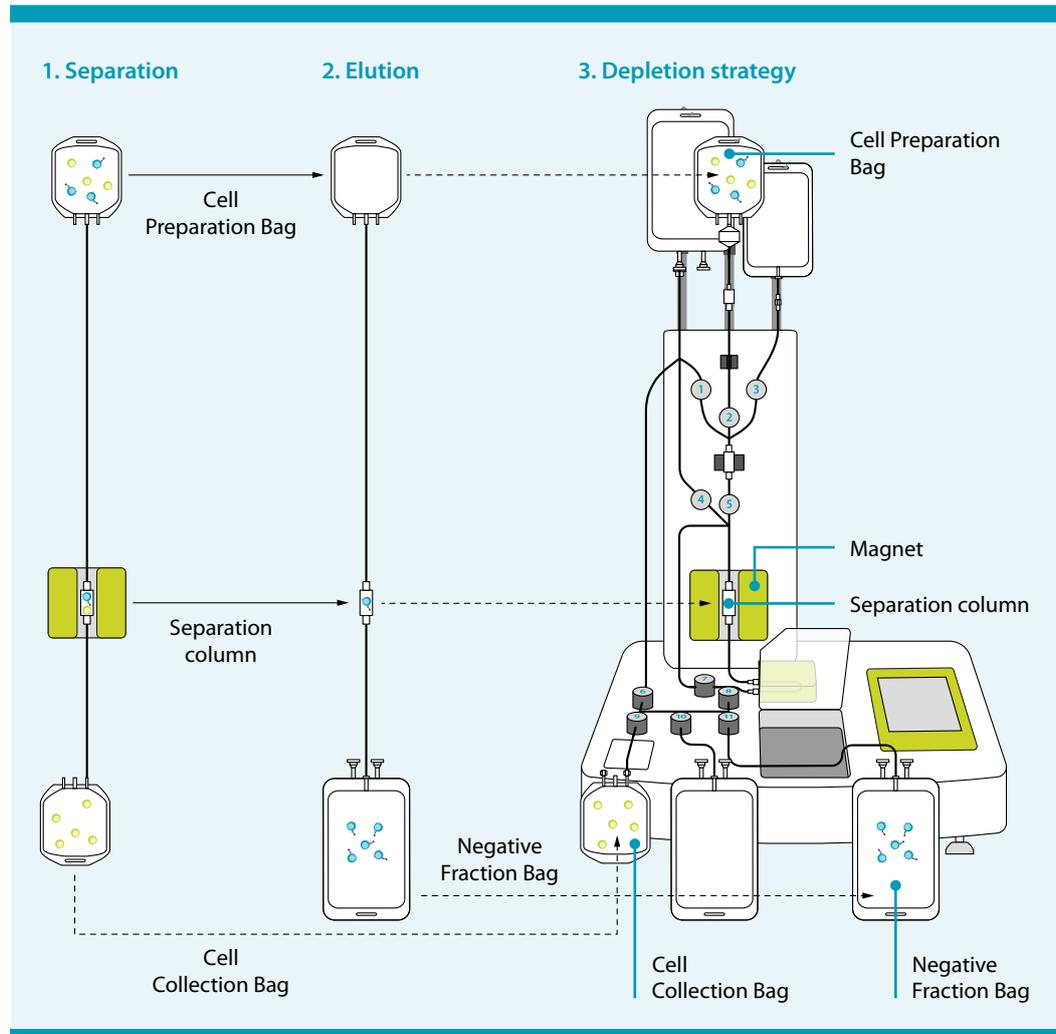
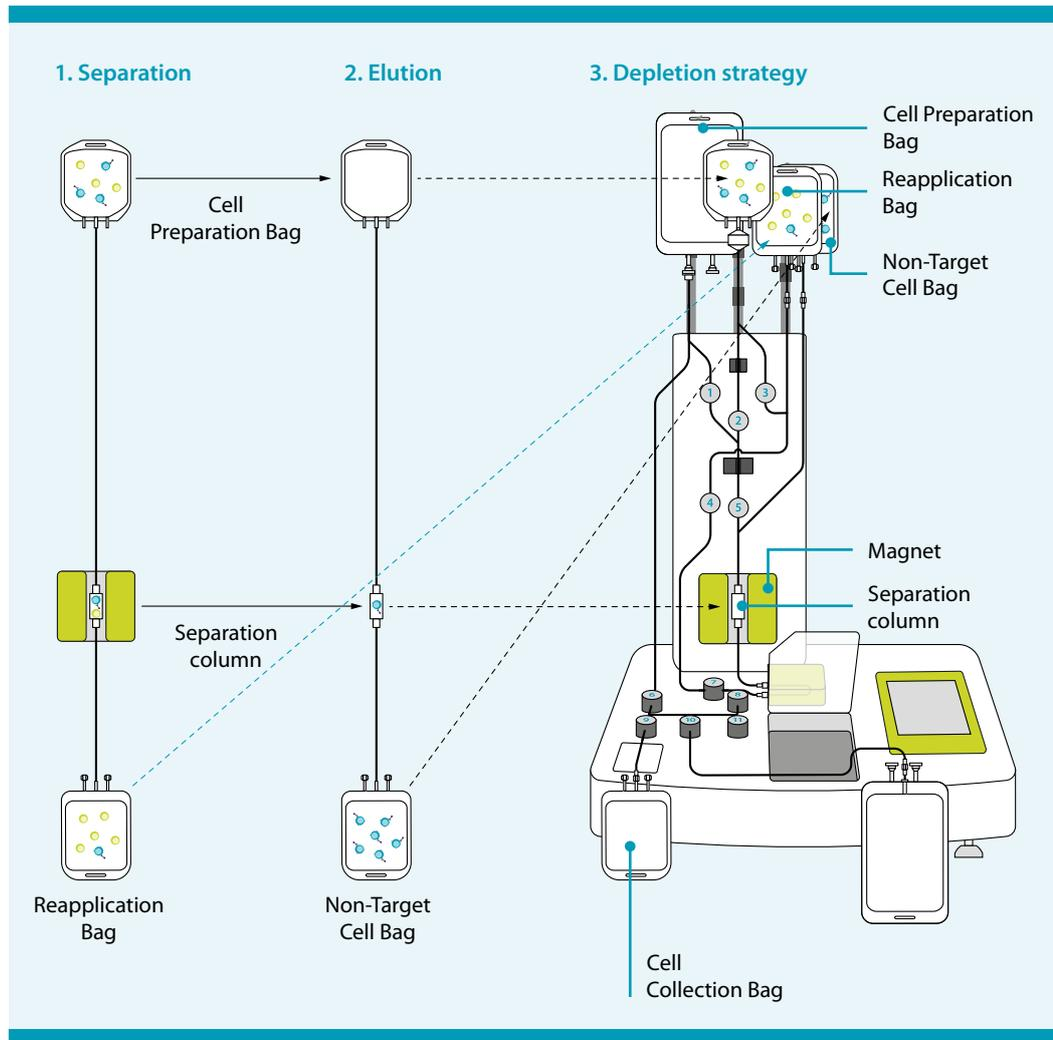
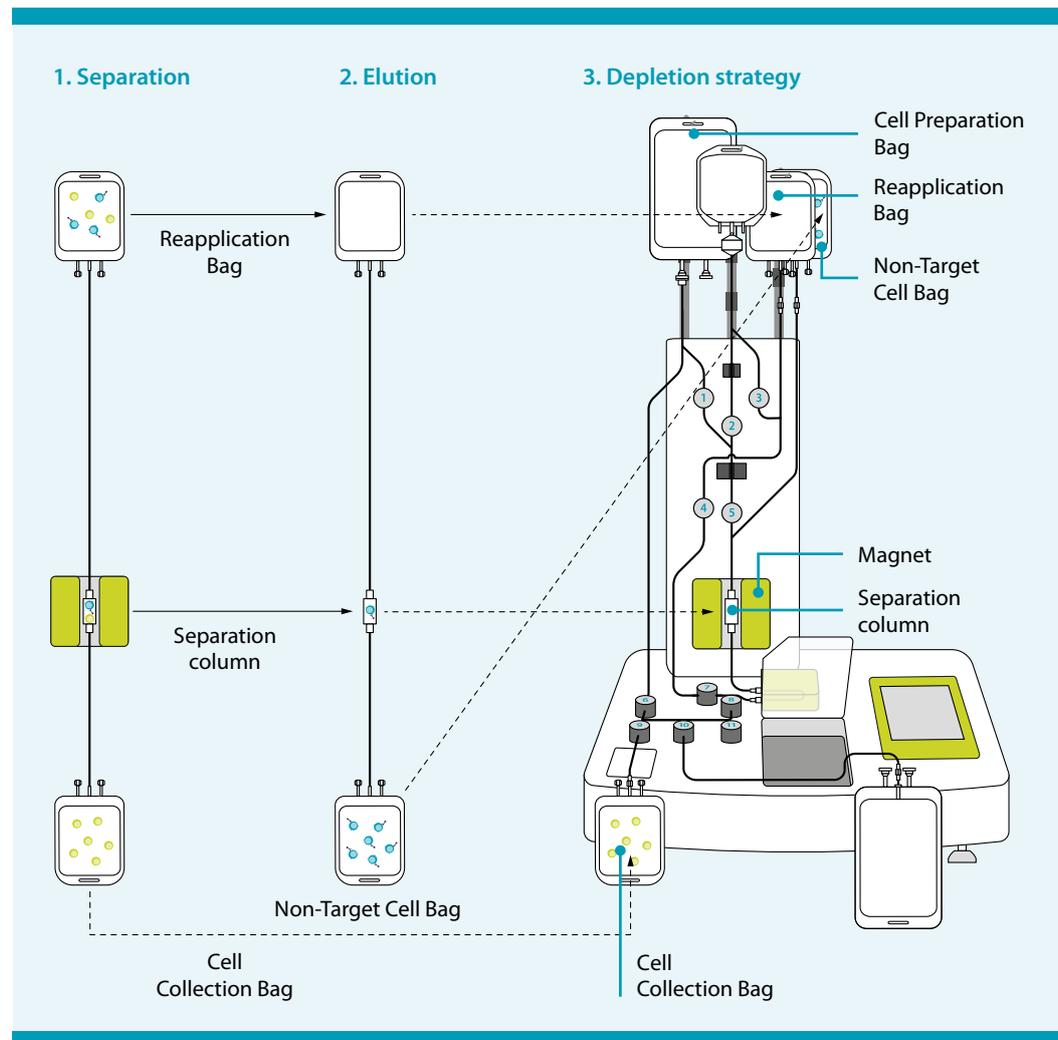

Figure 1.4: Strategy of the depletion program DEPLETION 2.1 using the CliniMACS Tubing Set LS
Figure 1.5: Strategy of the depletion program DEPLETION 3.1 using the CliniMACS Depletion Tubing Set (Part 1)
Figure 1.6: Strategy of the depletion program DEPLETION 3.1 using the CliniMACS Depletion Tubing Set (Part 2)
The MACS Technology is also very efficient for depleting specific cell populations. Unwanted cells are specifically labeled with super-paramagnetic particles and separated from target cells upon passage through the high-gradient magnetic column. In contrast to the enrichment strategy, the non-labeled cells (target cells) are collected in the Cell Collection Bag and the labeled cells (non-target cells) are collected in the Negative Fraction Bag (see Figure 1.4) or in the Non-Target Cell Bag (see Figure 1.5 and Figure 1.6) respectively.
3. The depletion program (DEPLETION 3.1) retains the magnetically labeled cells in the separation column, the non-labeled cells (target cells) flow through the column and are collected in the Reapplication Bag in order to be reloaded onto the separation column in a second sensitive depletion (see Figure 1.6). When the magnet is moved into the "OFF"-position, the magnetically labeled cells (non-target cells) are released from the column and collected in the Non-Target Cell Bag.